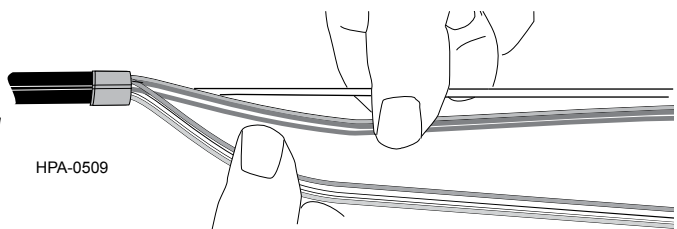

Figure 19
Step 8: Working from the switch back center back to the tape wraps, carefully unwind the buffer tubes from around the central member of the cable (Figure 19). Be careful not to bend or kink any of the buffer tubes.